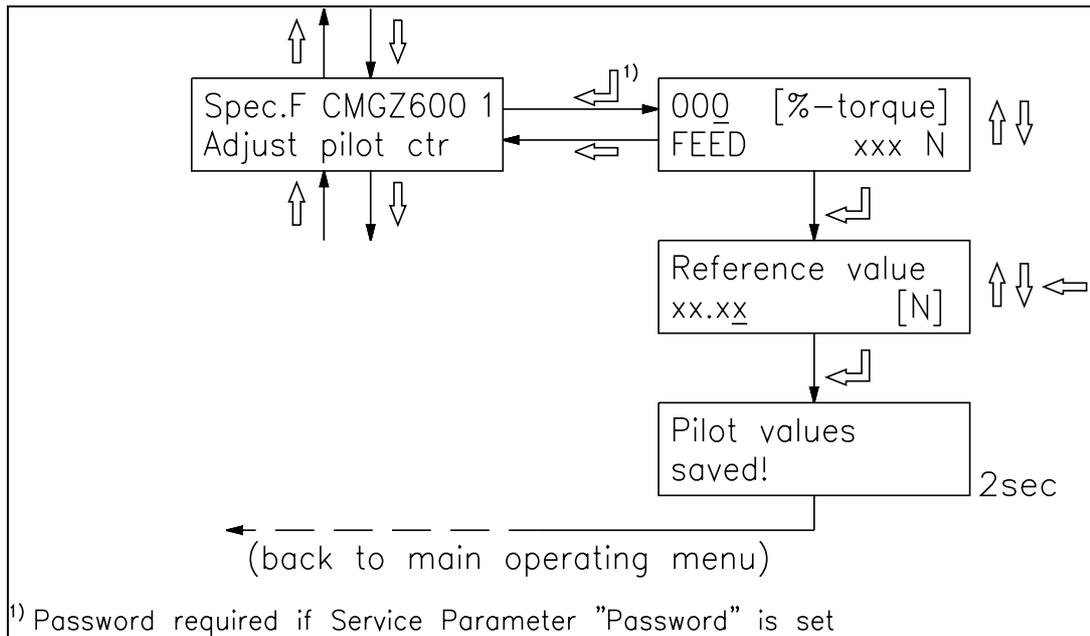

fig. 17: Program flow for special function „Adjust pilot control“ C611008e
- When in the main operating menu, press MODE key. Search and select the module *Spec.F CMGZ622 1* and the special function *Adjust pilot ctr* with the ↑ ↓ ↵ keys (fig. 12). Input the formerly calculated torque value into *%-torque* and confirm with ↵ key (fig. 17). Input the formerly noted reference value [N]. After confirmation with ↵ key the calculated pilot control is saved together with the actual diameter signal.